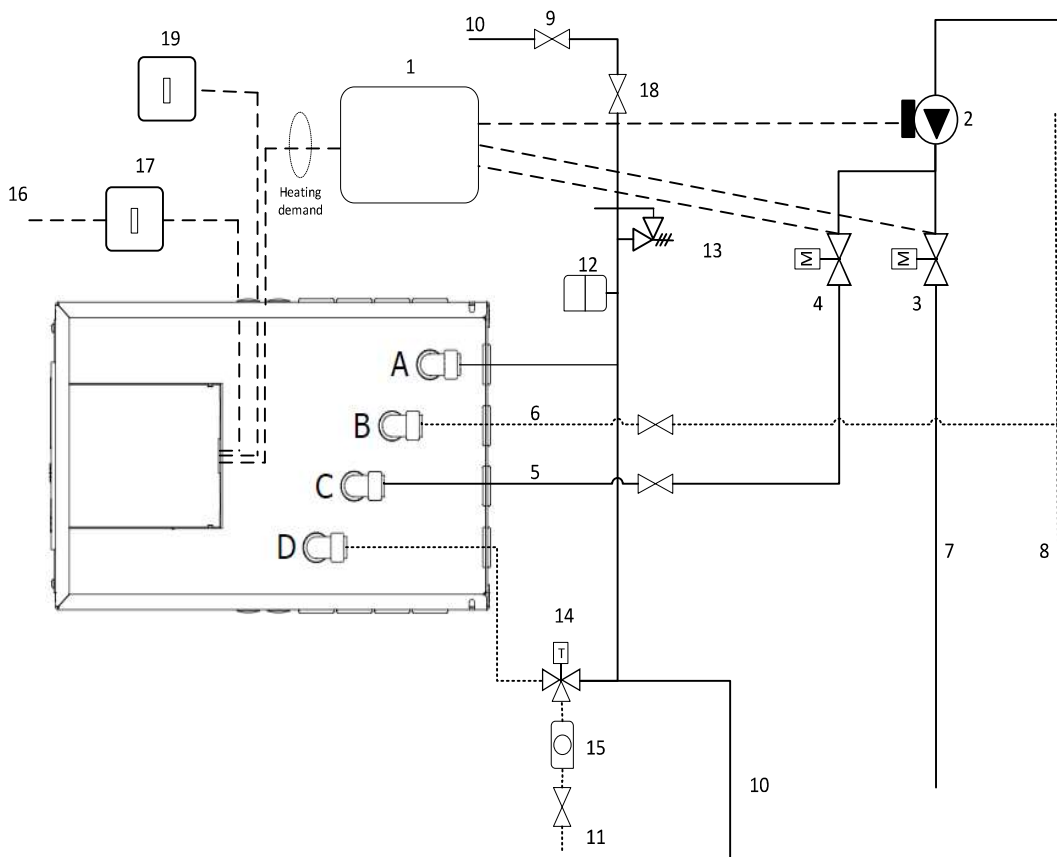

Figure 12.1: Example Wiring Option 1 Schematic (see Figure 3 for piping and electrical options available)
- Run and connect 3 Core mains power supply cable (16A, minimum 2.5mm² CSA) from the local 2-pole isolator to the Heat Battery controller (Figures 12.1 and 12.2).